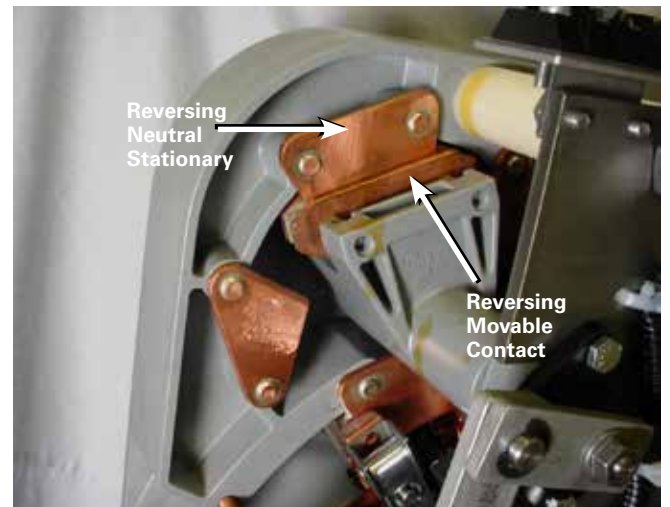

Figure 8. Neutral position for reversing movable.
- B. The reversing movable contact is located on the reversing neutral stationary contact. See Figure 8.